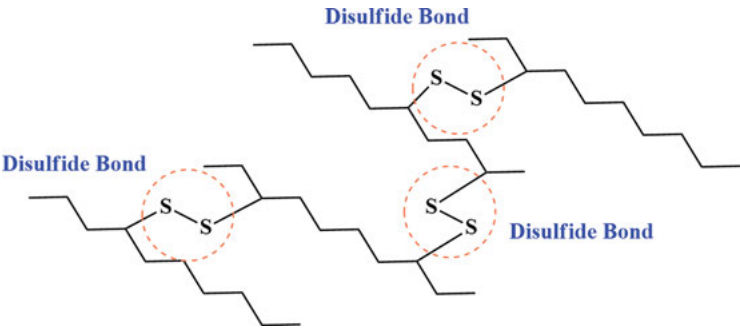

Figure 6.14: Vulcanization.
Vulcanization is a chemical process in which elastomers such as natural rubber (NR) are cross-linked by heating with sulfur (Figure 6.14).